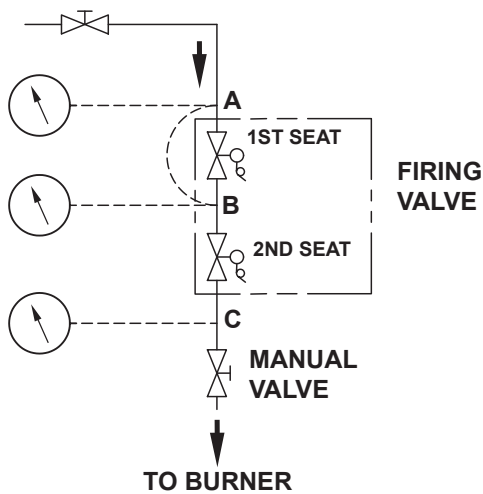

Figure 70. Leak Test Procedure
Test point C is a bleedle valve located downstream of both automatic gas valve seats and upstream of the manual valve. See **Figure 70**.
- a. Close downstream manual gas valve. See **Figure 70**. Turn power on.